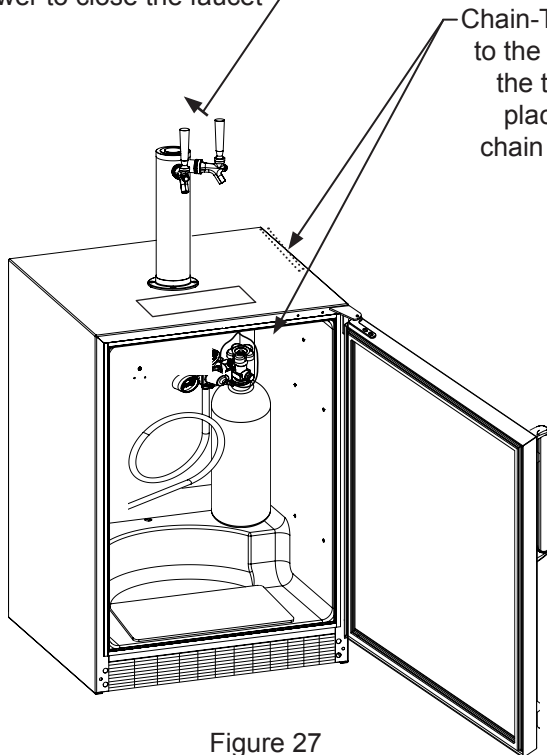

Figure 27
8. Locate the CO₂ tank in the corner of the refrigerator as shown in Figure 27 and secure with the chain. Close the faucet handle on the tower.